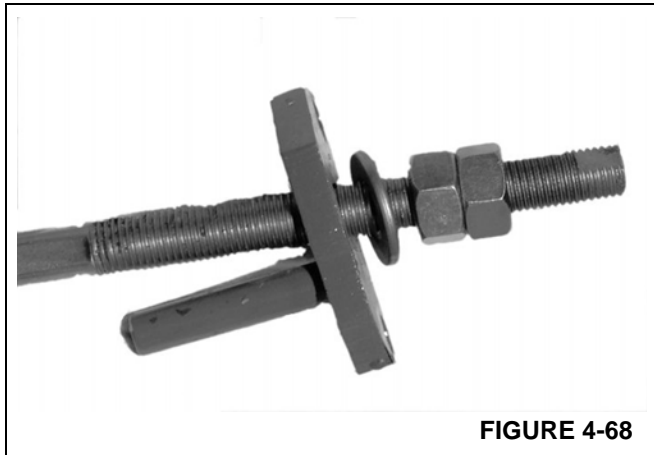

FIGURE 4-68
13. Assemble the Fly Retract Cable anchor weldments to the retract cables. Thread the single nut on the cable end until there is 1 1/2 inch of thread showing, then install the locknut (Figure 4-68).